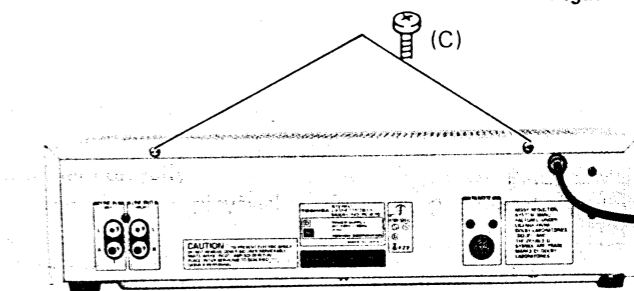

Figure 15
2. Remove two screws (C) from rear panel of unit. (See Figure 15)